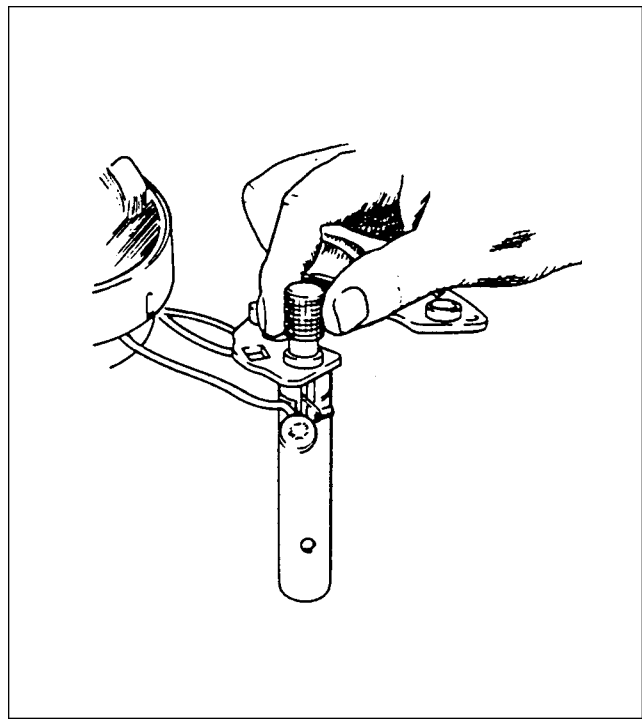

Figure 24-39. Testing Alternator
1. Wiring connections for bench testing alternator are shown in figure 24-39. Refer to individual specification chart 2403 for output test figures. Adjust carbon pile if necessary, to obtain specified voltage.
Always refer to wiring diagram (refer to figure 24-39) when installing or testing alternator.